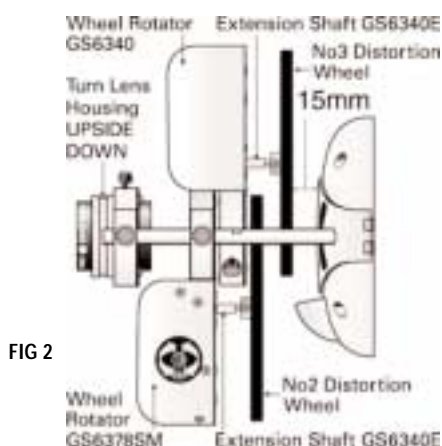

FIG 2
**FIG 2** A number 2 Distortion Wheel fitted onto a Variable Speed Rotator (GS6378SM) with an Extension Shaft (GS6340E) in front of a Number 3 Distortion Wheel fitted onto a 1/2 rpm Wheel Rotator (GS6340) with an Extension Shaft creates the effect of light on water.